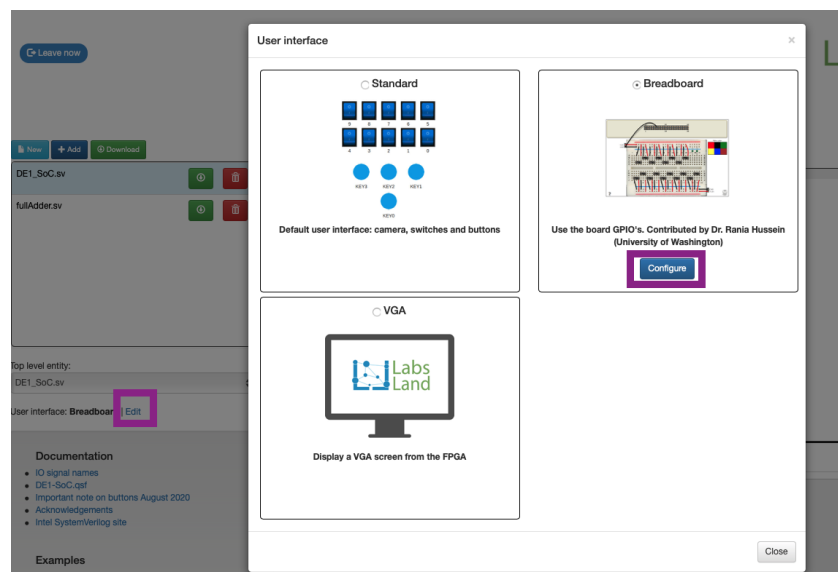

Figure 1. LabsLand Select Interface
3. Locate the “User interface” heading above the Documentation box and click “Edit” next to it. The resulting pop-up window can be seen in Figure 1. In the pop-up window, select the “Breadboard” option and click the “Configure” button under the “Breadboard” tile.